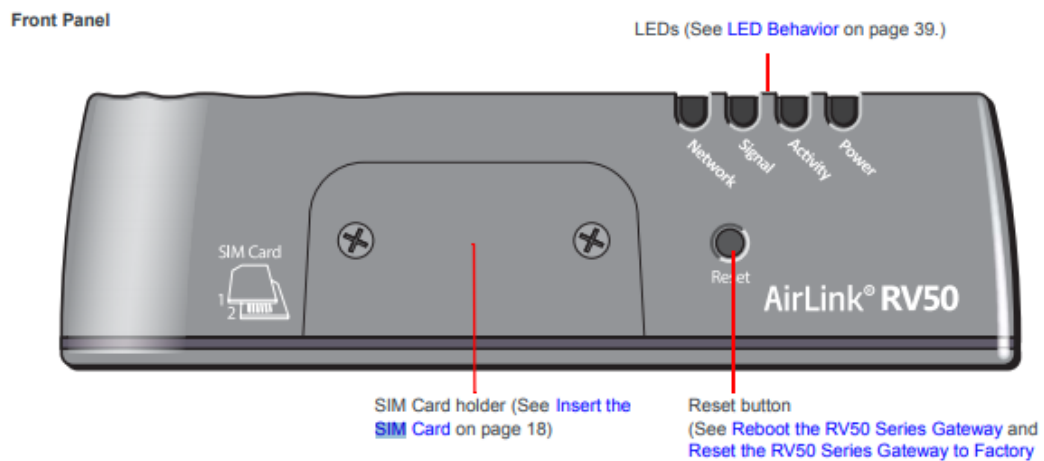

Figure 10 The SIM Card holder lid
- Lift the RV50 modem, and rotate it so that the SIM card holder opening is accessible (see Figure 10)